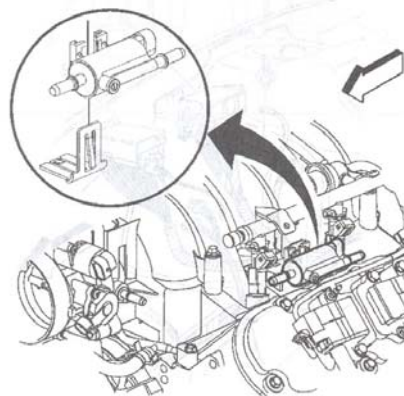

Fig.13
- 5) Remove and discard purge solenoid bracket. There is no provision on new manifold for this bracket (Fig.13).